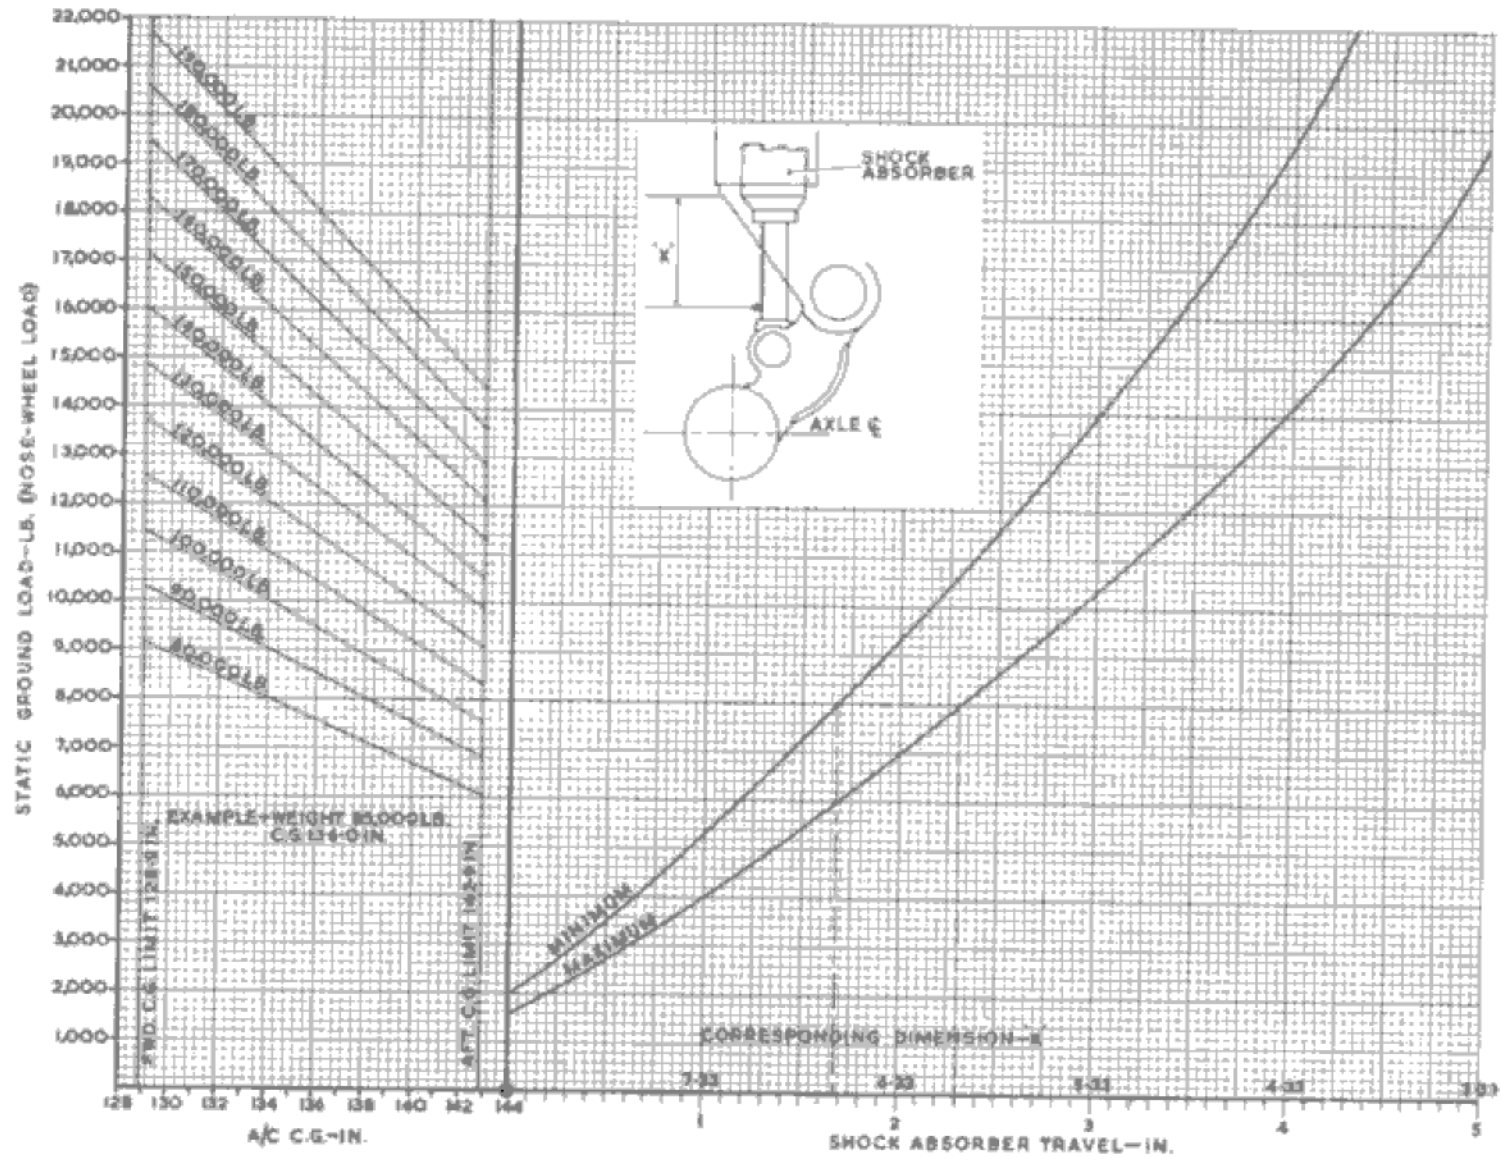

Fig. 3. Nose-wheel unit static load/deflection curve
12. The nose-wheel unit shock absorber is liquid sprung and is not inflated with air. Provided the C.G. position and the aircraft All-Up Weight is known the static ground load on the nose-wheel unit and the corresponding nose-wheel unit extension can be determined from fig.3. A check of the serviceability of the shock-absorber can then be made by measuring the extension (dimension X, fig.3) and compare it with the extension given for that particular nose-wheel unit loading. Alternatively it is necessary to jack the aircraft and check that the shock-absorber oil pressure (1,500 ± 50 p.s.i.) is correct in accordance with the instructions contained in Sect.3, Chap.5 of this Book.